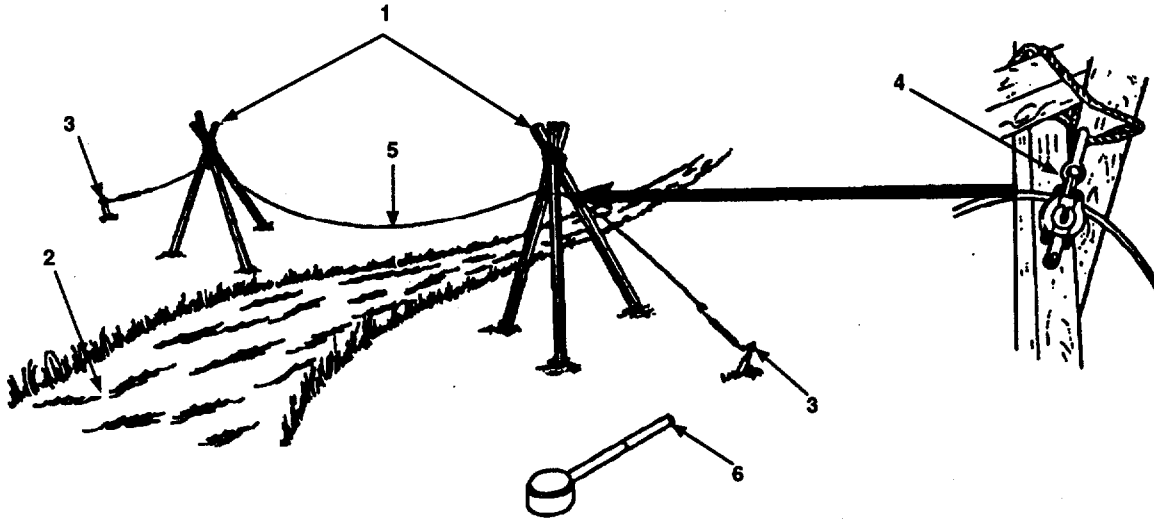

Figure 2-38. Tripods and Wire Rope Installation.
- a. Using available materials, construct a tripod (Figure 2-38, 1) on either side of stream (2), gap, or other obstruction to be spanned. Tripods (1) should be strong enough and high enough to support hoseline. Use manila rope to cross gully.